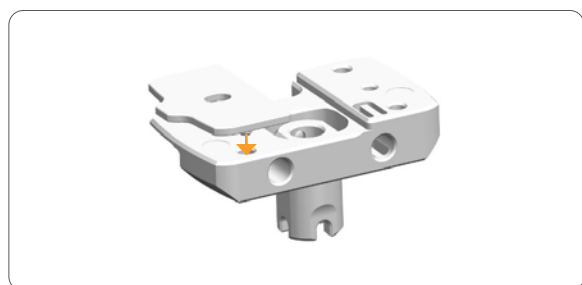

Figure 70
4. Assess the distal femoral condyles for cartilage wear (medial, lateral or both), and place a 2mm shim on the worn side/s of the Kinematic Alignment Valgus Guide to accommodate for the cartilage wear (**Figure 70**).